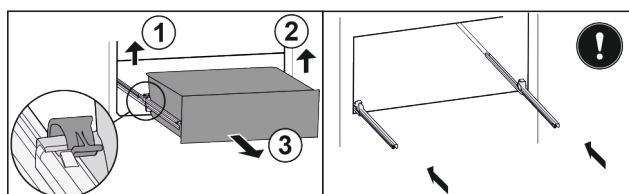

Fig. 34*
- Lift the left clamp and simultaneously pull the drawer on the left forwards Fig. 34 (1).*
- Lift the right clamp and simultaneously pull the drawer on the right forwards Fig. 34 (2).*
- Take out the drawer to the front Fig. 34 (3).*